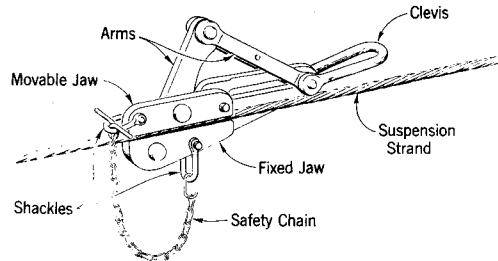

Fig. 3—H Strand Puller
3.02 The H strand puller, illustrated in Fig. 3, is designed for tensioning 10M and larger suspension strand when the load exceeds 5000 pounds. It may be used for lighter loads such as those covered in 3.01 but **must** be used under the following conditions.